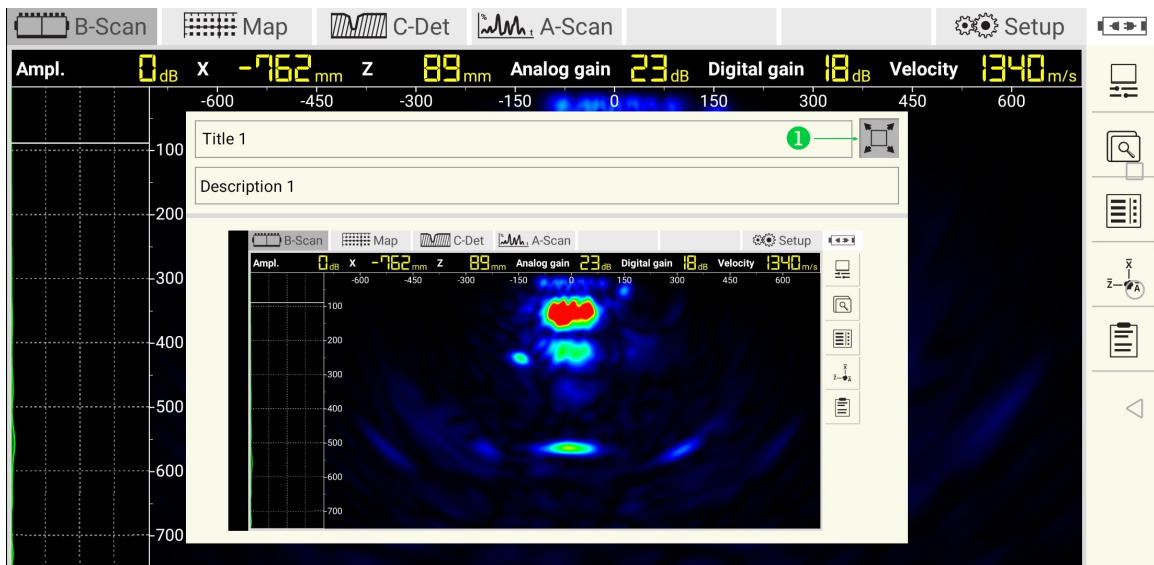

Figure 17: Screenshot zooming
After pressing the zoom  button The fields title and description become uneditable, Figure 17. Use the unzooming tool ① to switch to the previous view.